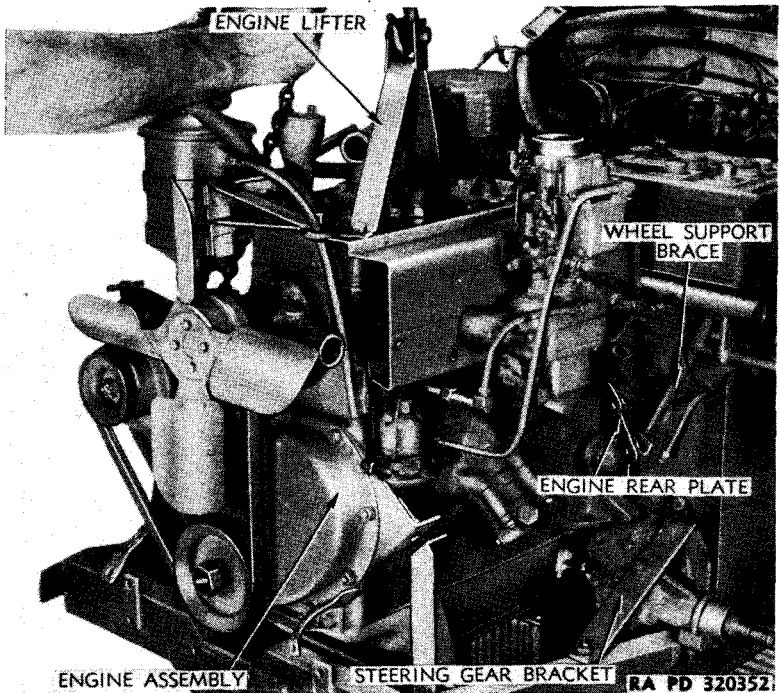
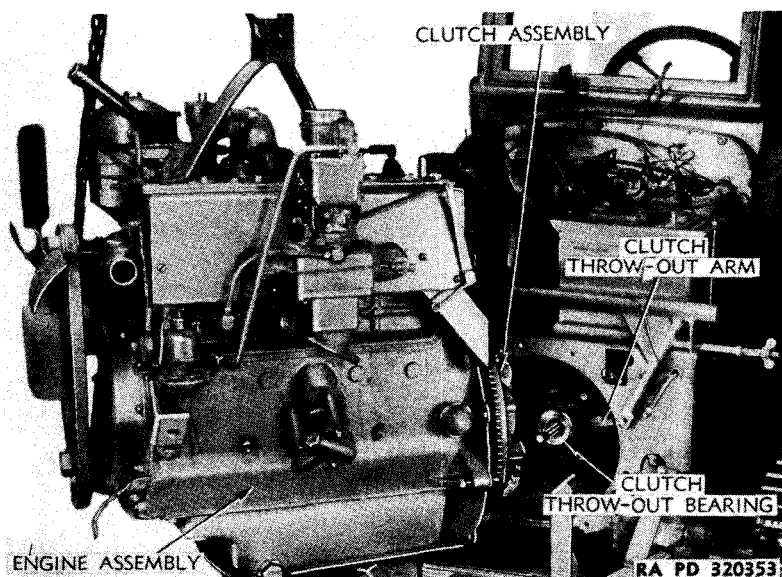

Figure 51—Sliding Engine Ahead
Figure 52—Engine Removed
d. **Remove Engine.** Take weight of engine on chain hoist. Remove six remaining bolts from engine and clutch housing. Pull engine ahead slightly so engine rear plate can be rotated to clear steering gear bracket brace and wheel carrier support brace (fig. 51). Pull engine ahead off splines, and lift out engine (fig. 52). Remove chain hoist and engine lifter. Remove six cap screws (by loosening equally), holding clutch assembly to flywheel. Remove clutch assembly and driven disk.